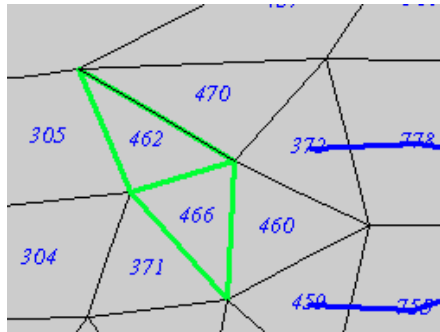

Figure 3-3 Area of node deletion
2. Look at the area of elements 470-462-466-460-372 ( Figure 3-3). The mesh quality option shows us that the maximum slope is exceeded here. This problem can be fixed by deleting the node common to these elements.
1. Select the node indicated in Figure 3-3 and press the DELETE key, BACKSPACE key, select *Edit / Delete*, or use the *delete*  macro. The mesh is retriangulated to fill the void caused by deletion. The new elements now show no problem with maximum slope requirements.